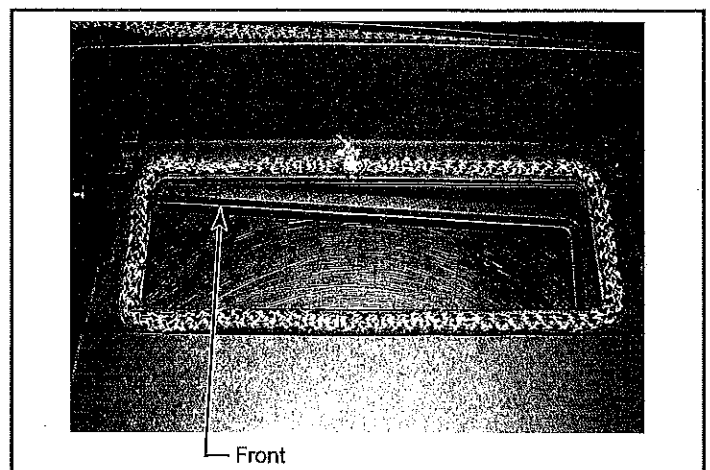

Figure 1 - Damper Gasket
- Cut a piece of the 3/8" gasket material to length, allowing 1" of excess. Place a continuous 1/8" bead of cement in the damper gasket channel, and press the new gasketing in place, trimming off the excess length. Start the gasket in the front center of the damper opening. (Figure 1)